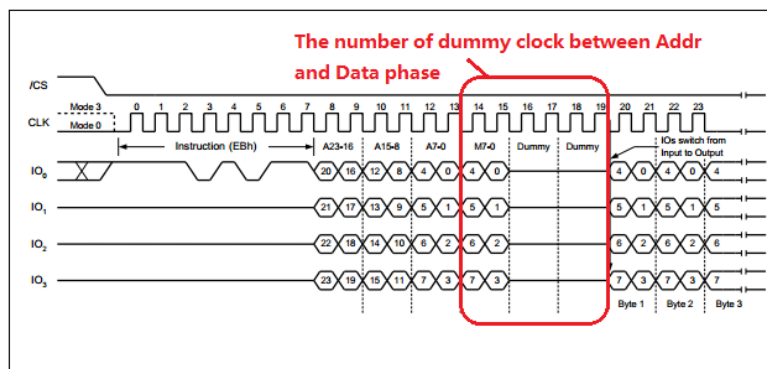

Fig 17-2 Fast read quad I/O instruction sequence
- There are 6 dummy cycles in Read Quad I/O mode, as Fig 17-2 shows.